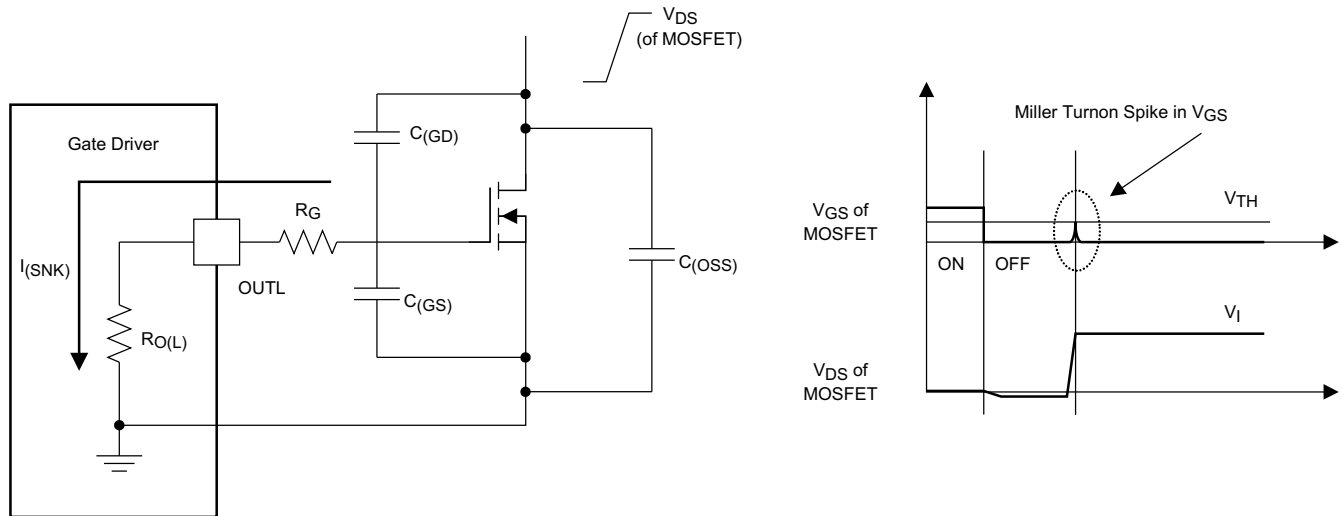

Figure 6-6. Very-Low Pulldown Impedance in UCC27511A, 4-A and 8-A Asymmetrical Drive (Output Stage Mitigates Miller Turnon Effect)
An example of a situation where the Miller turnon effect is a concern is synchronous rectification (SR). In an SR application, the dV/dt occurs on the MOSFET drain when the MOSFET is already held in off state by the gate driver. The current discharging the $C_{(GD)}$ Miller capacitance during this dV/dt is shunted by the pull-down stage of the driver. If the pull-down impedance is not low enough then a voltage spike can result in the V_{GS} of the MOSFET, which can result in spurious turnon. This phenomenon is shown in Figure 6-6. The UCC27511A device offers a best-in-class, 0.375- Ω (typ) pull-down impedance boosting immunity against Miller turnon.